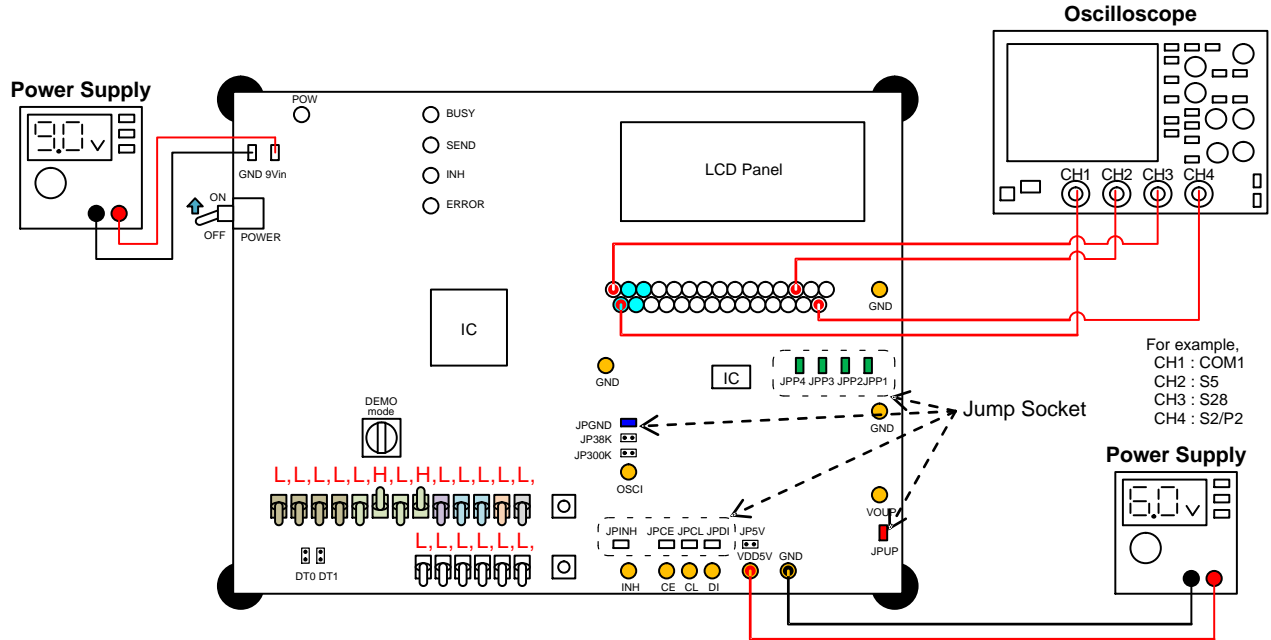

Figure 4. The Test Constitution when the External Power Supply Is Used
1. Connect the test setup as shown in Figure 4.